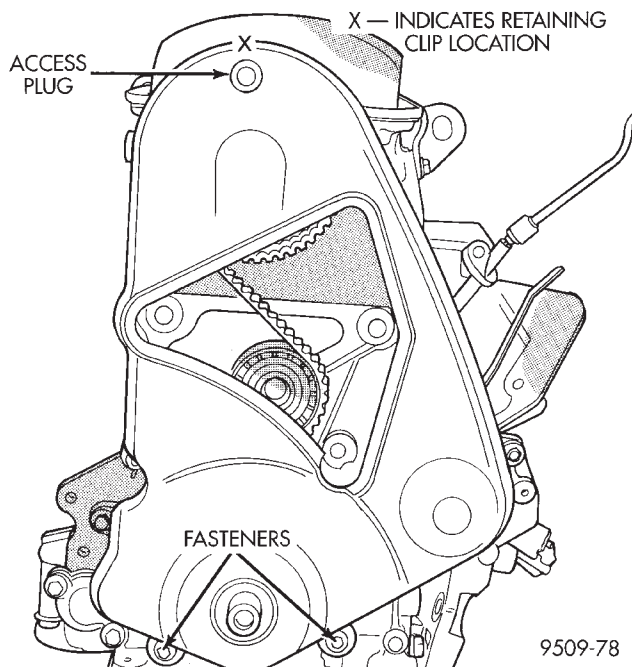

Fig. 44 Timing Belt Cover
- (8) Remove front timing belt cover (Fig. 44).